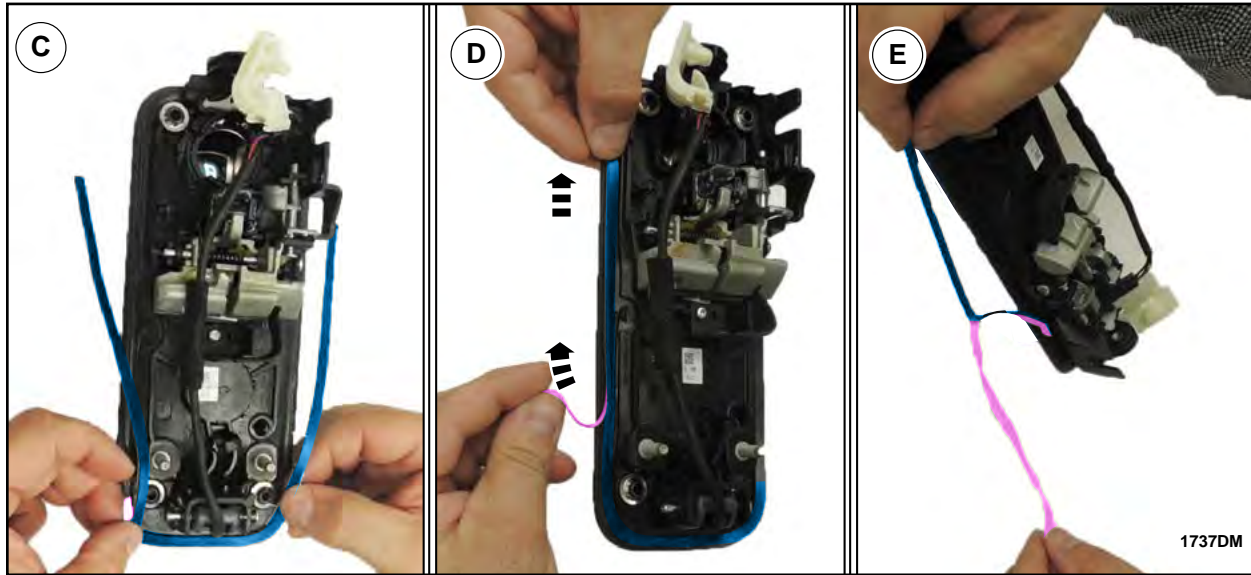

FIGURE 45
- C. Align the marks made on the Foam E and exterior door handle and adhere the back center portion to the exterior door handle as shown in Figure 45.
- D. Lay one side of Foam E down on the exterior door handle and without stretching the foam pull off the adhesive backing as you adhere Foam E to the exterior door handle as shown in Figure 45.
- E. Remove the protective backing from the other side of Foam E as shown in Figure 45.